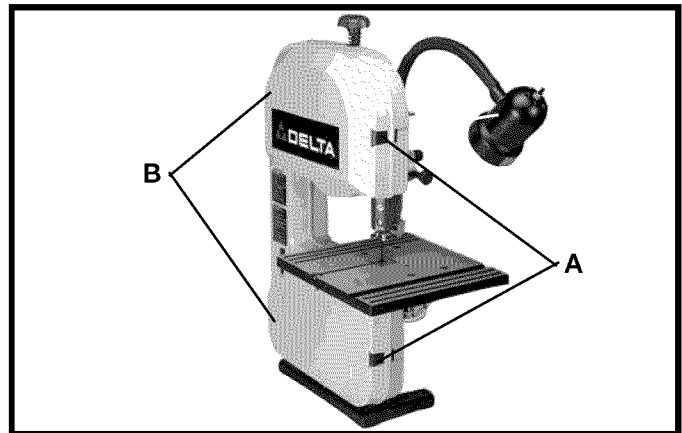

Fig. 22
For the purpose of making adjustments such as changing the blade, tracking the blade, blade guide adjustments, etc., the hinged door (B) Figs. 22 and 23, must be opened as follows:
2. Press in the two locking latches (A) Fig. 22, and swing door (B) open.
4. To close and fasten door (B) Figs. 22 and 23, press on door directly over latches (A) Fig. 22, until latches snap into the locking position.